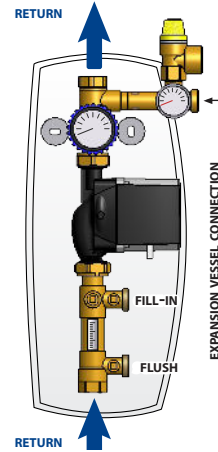

Fig. 2
8. Connect as illustrated in fig. 2. After having all connected, check